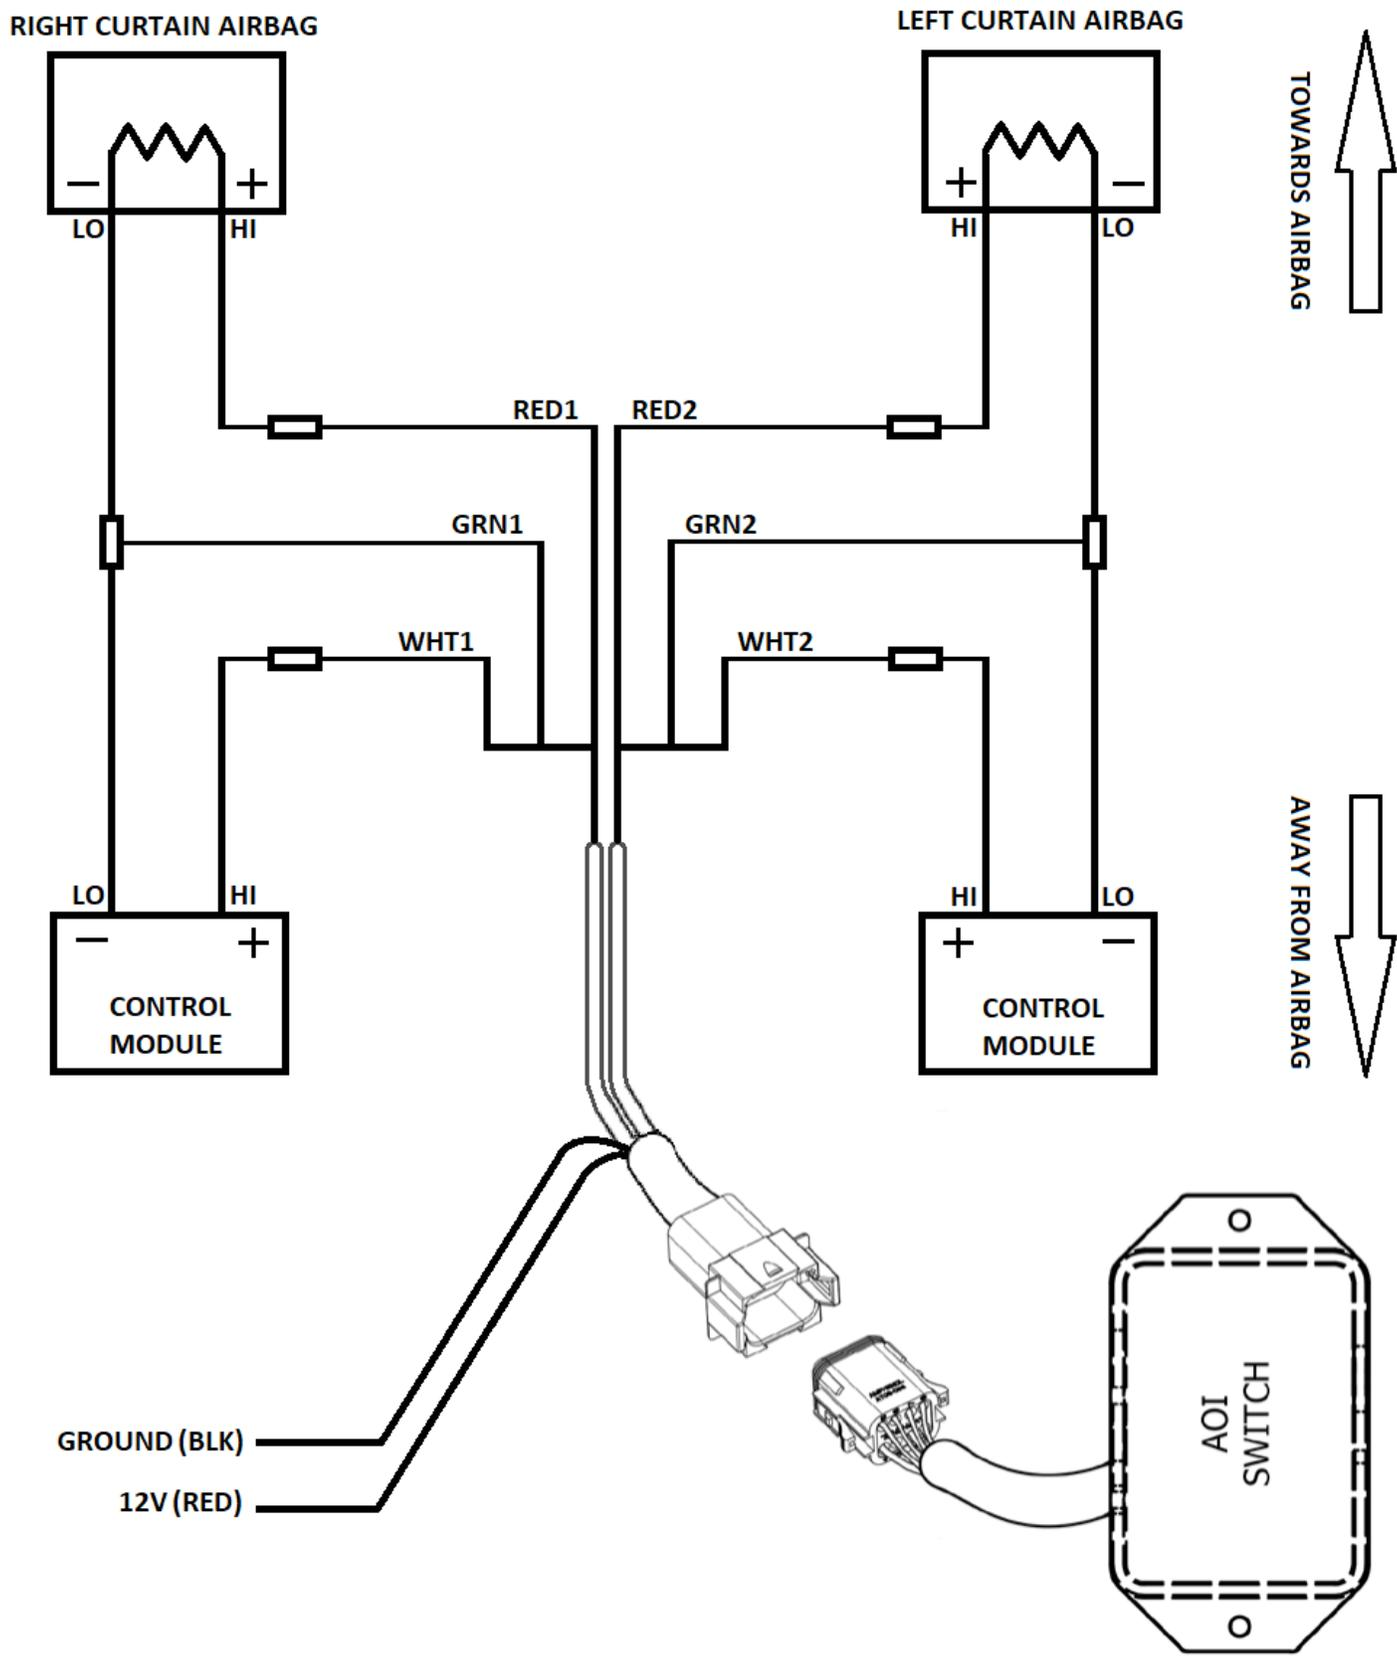

Fig. 2
- D. Refer to the wiring diagram of Figure 2 for detailed instructions on how the wires are connected. Identify the feed/signal and return/groundwires first. You may need to use a vehicle database for this, or contact tech support at 1-800-480-6680 for assistance.
- E. Run the two AOI switch harnesses through the vehicle to the Pillars as shown in Figure 1 and attach the AOI harness wires into the two side curtain air bag lines as shown in Figure 2. Make sure the red wires head toward the air bags and the white wires head toward the control module.